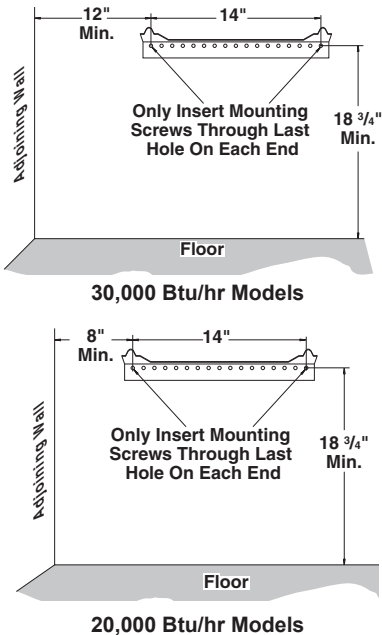

Figure 8 - Mounting Bracket Clearances
⚠ WARNING: Maintain minimum clearances shown in Figure 8, page 9. If you can, provide greater clearances from floor and joining wall.
2. Mark screw locations on wall (see Figure 8).